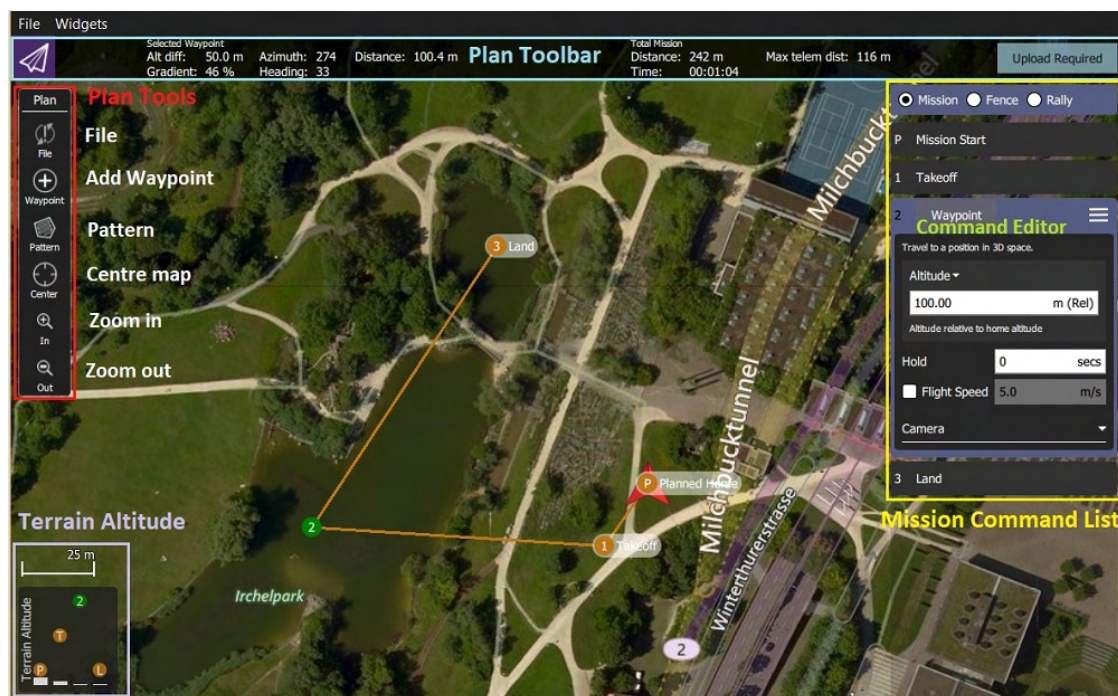

Figure 22. QGroundControl Screenshot of Mission Plan
The main elements of the User Interface (UI) for planning a mission are described below (see Figure 22 on the previous page)